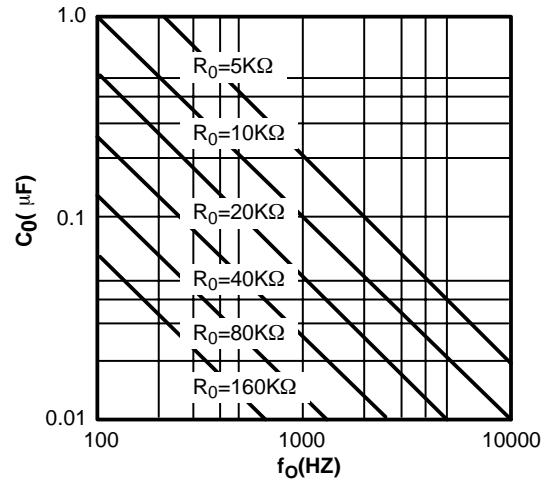

Figure 6. VCO Frequency vs. Timing Resistor
**VCO Timing Capacitor (Pins 13 and 14):** VCO frequency is inversely proportional to the external timing capacitor, C0, connected across these terminals (see *Figure 6*.) C0 must be non-polar, and in the range of 200pF to 10 $\mu$ F.
- Calculate value of  $C_0$  from design equation (1) or from *Figure 6*  $f_S = f_0$ :